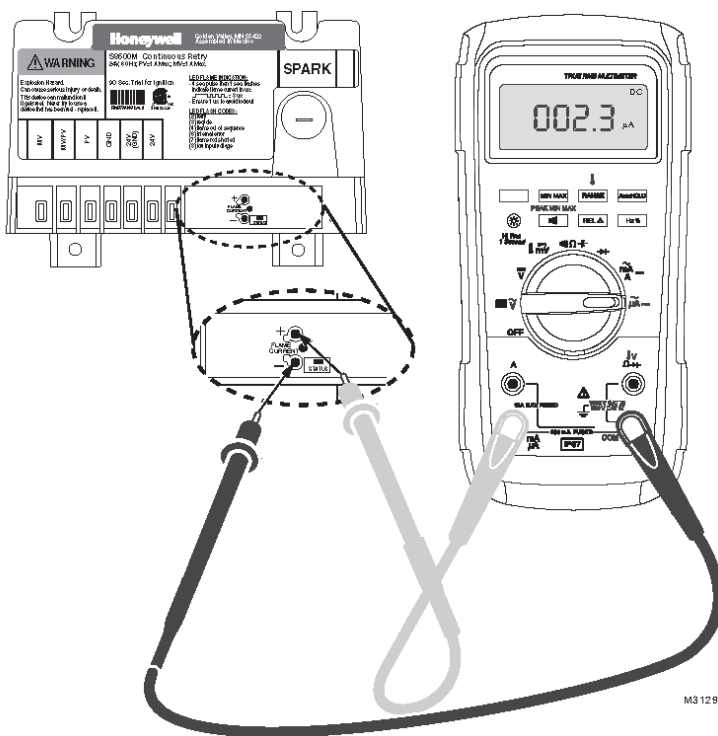

Figure 11-3: Measuring Pilot Flame Current with Micro-ammeter
See Figure 11-3 “Measuring pilot flame current with micro-ammeter”.
- Pilot flame current in micro amps can be measured using any standard micro-ammeter by inserting meter probes into module holes labeled FLAME CURRENT as shown in Figure 11-3.